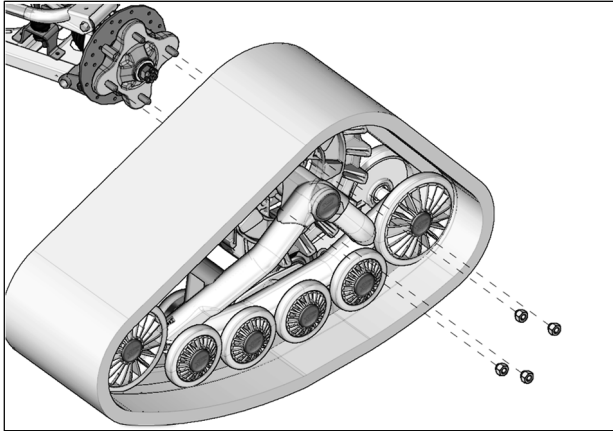

Fig. 10
10. Secure undercarriage to rear hub using the vehicle's own lug nuts. See Fig. 10